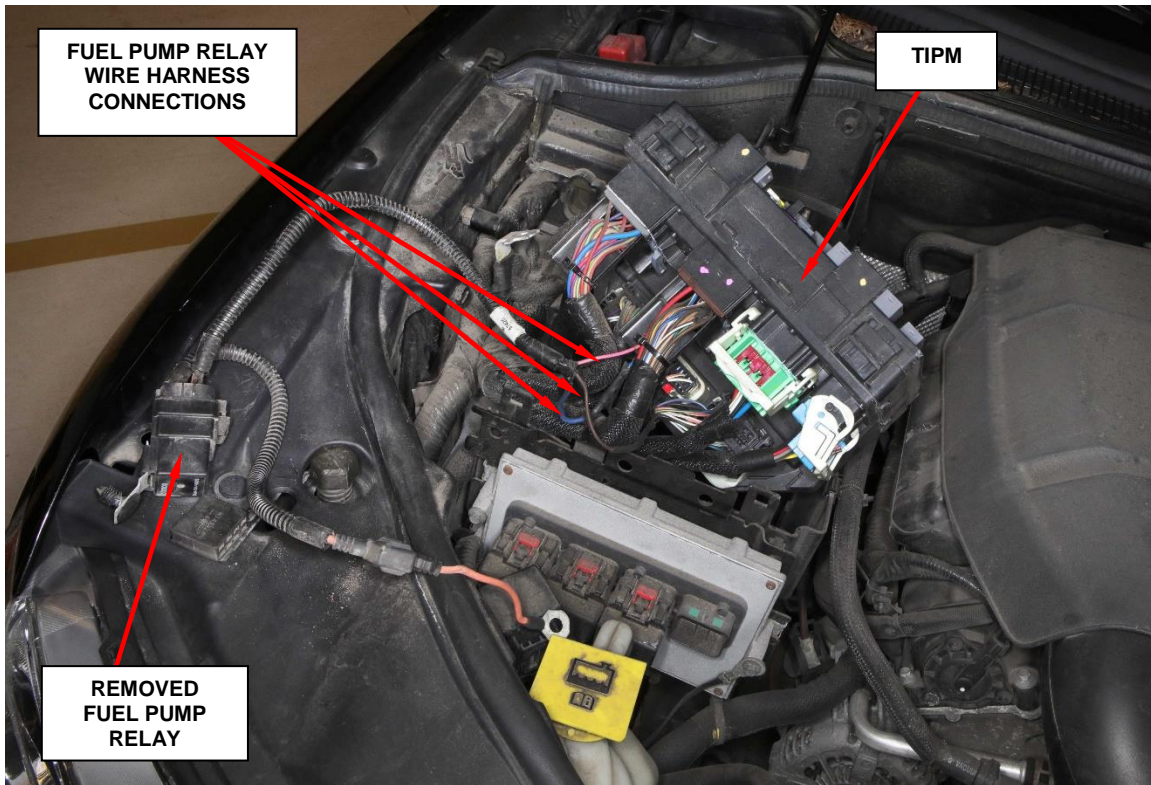

Figure 4 – Fuel Pump Relay Harness
8. Carefully rotate the TIPM on its side to expose the fuel pump relay wire harness connections (Figure 4).